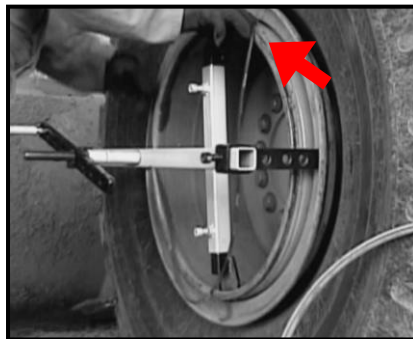
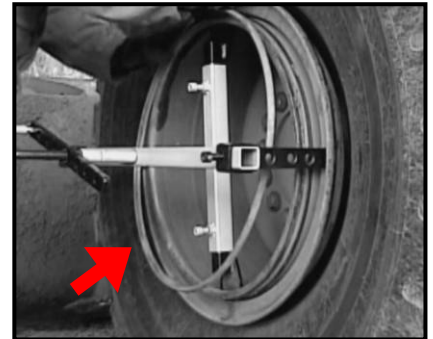

FIGURE 6a
FIGURE 6b
6. After you have installed the "O" Ring (**Figure 6a**) you can also install the locking-ring (**Figure 6b**).